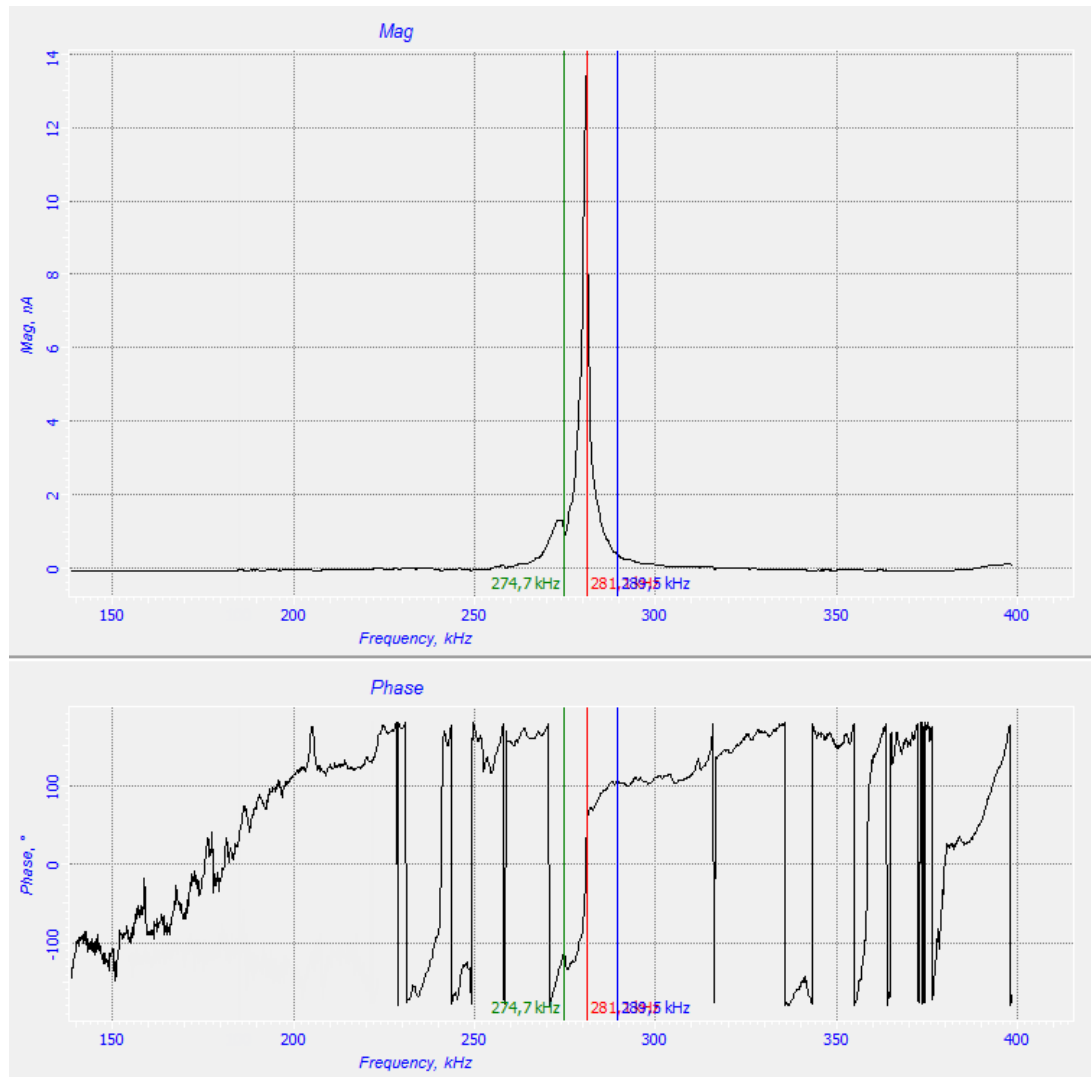

Fig. 8-6. Redefining range of taking frequency relations.
6. Restrict the search range to cover only the desired resonance peak (Fig. 8-6).